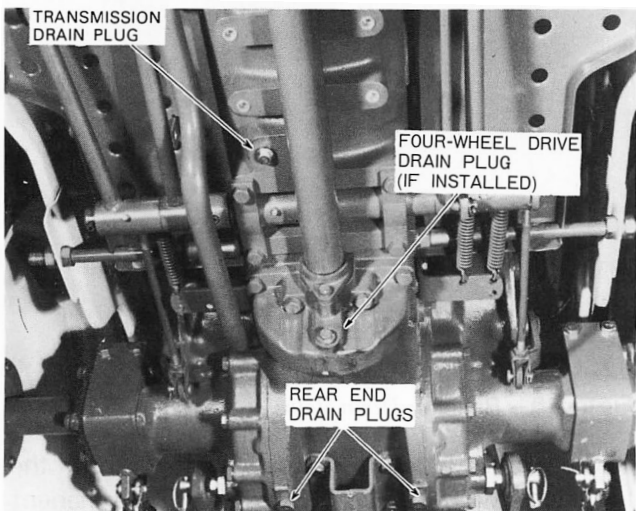

**Figure 45 – Transmission, Rear Axle and Hydraulic System Oil Level Dipstick and Fill Plug**
1. With the tractor standing level and the engine off, check the oil level with the dipstick, Figure 45.
2. Remove the filler plug, Figure 45, and fill with new oil of the type specified, page 32.